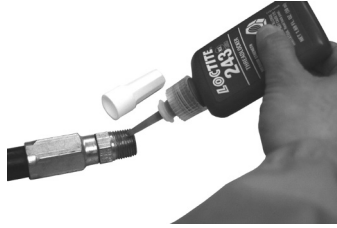

Figure 2: Apply thread sealant
1. Attach swivel to meter. Apply Loctite® 243 thread sealant, or equivalent, to the male end of the hose. See *Figure 2*.